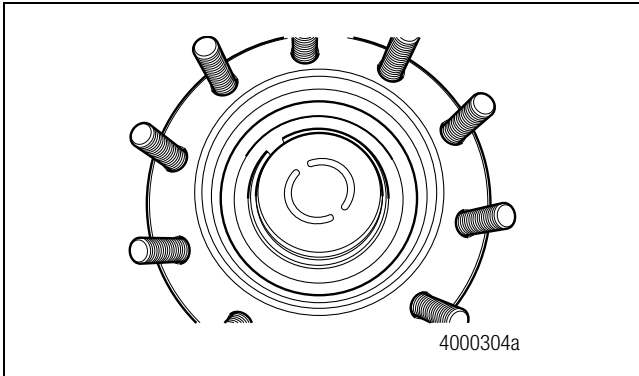

Figure 6.58
1. Install the hubcap into the hub unit by hand. Figure 6.58.
1. If a hub puller is not available, install the hubcap into the hub unit by hand. Figure 6.58.